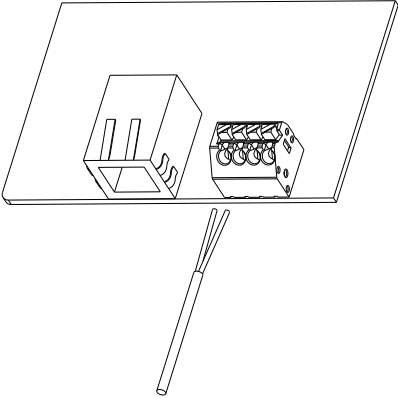

Figure 31
1. For RS-485 communication a standard ethernet cable is recommended. The pin assignments are shown below. Strip the wire as shown in the figure 31, and crimp the copper wire to the appropriate OT terminal (according to DIN 46228-4, provided by the customer) if the cable is multi strand flexible conductor. The other end of the cable should be connected